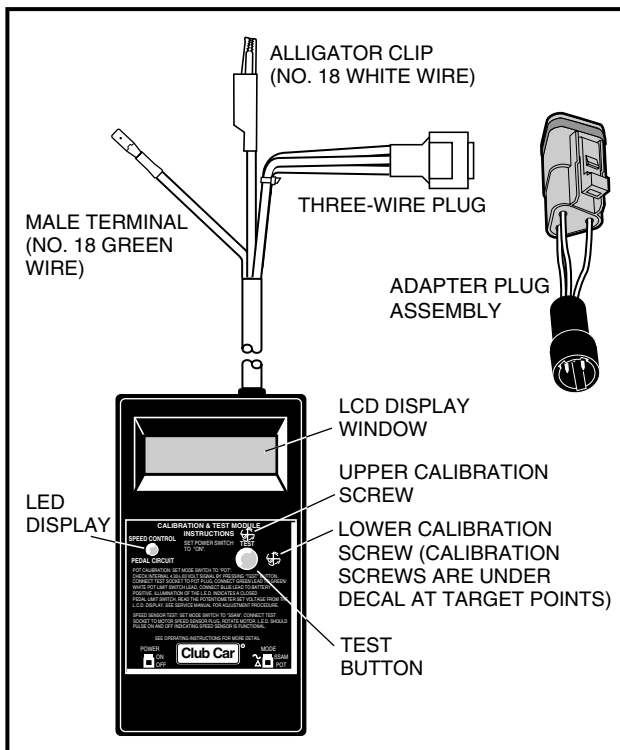
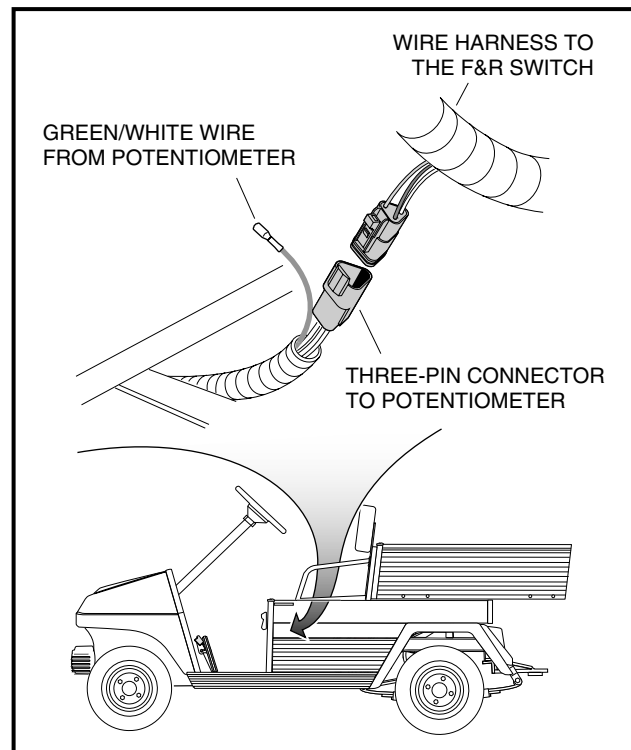

Figure 5-12 Calibration Test Module
Figure 5-13 Three Wire Connector to Potentiometer
- 6.1. Connect Calibration Test Module (CTM) (Club Car Part No. 1018871-01) (**Figure 5-12, Page 5-8**) to vehicle.
- 6.1.2. Connect the three-pin plug of the CTM to the three-pin connector from the potentiometer (**Figure 5-12, Page 5-8**) and (**Figure 5-13, Page 5-8**). See following NOTE.
- 6.1.3. Disconnect the green/white wire from the potentiometer housing assembly (**Figure 5-13, Page 5-8**) at the Forward and Reverse Limit Switch No. 1.
- 6.1.4. Connect the green/white wire from the potentiometer housing to the green lead from the CTM (**Figure 5-12, Page 5-8**).